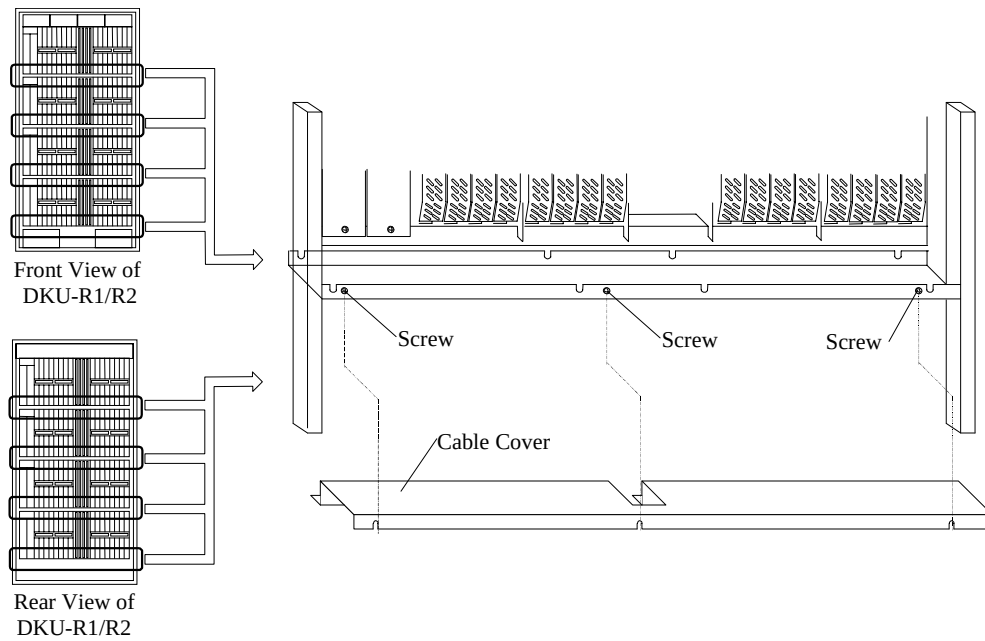

Fig. 3.11.9-2 Removal of Cable Covers
- c. Connect the DEV interface cables to the FSW PCBs in the DKU-R2 frame referring to Fig. 3.11.9-3 through Fig. 3.11.9-6.